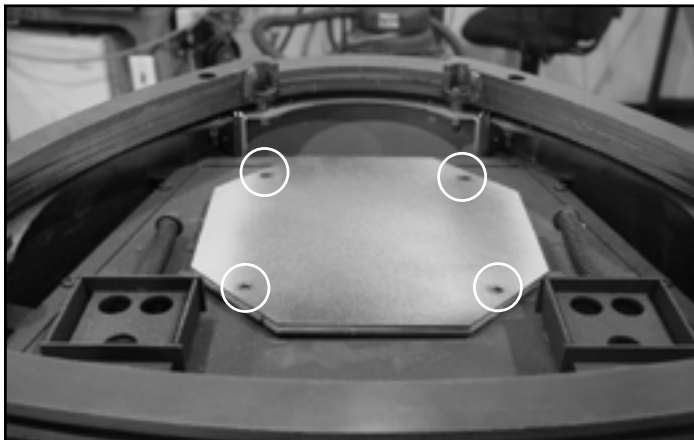

Figure 8.12
9. Install the cover plate and gasket removed from the rear of the appliance to the top of the appliance with the screws previously removed. (Figure 8.12).